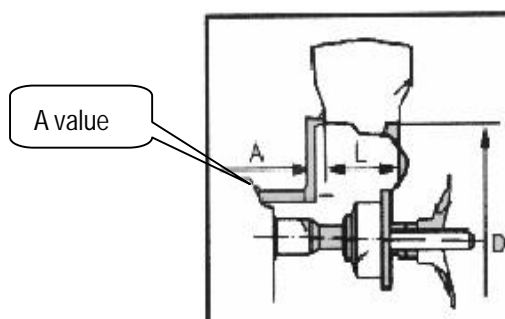

Fig. 13
- I A value Input: Pull out the measure scale into contact with the inside wall of the wheel rim, check the relative value (Fig. 13). Press [+] and [-] buttons next to A button to input the measured value until the correct number is shown. [+] to raise; [-] to lower Thus, the left display shows "A".